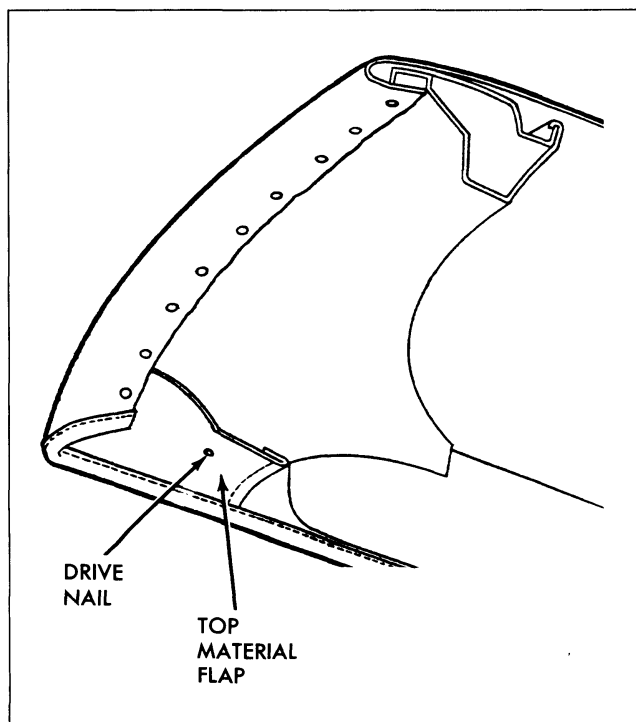

Fig. 21-11 Top Material at Front Roof Rail
4. Loosen front end of each side roof rail front weatherstrip sufficiently to detach top material flaps which are nailed and cemented to rails (Fig. 21-11).